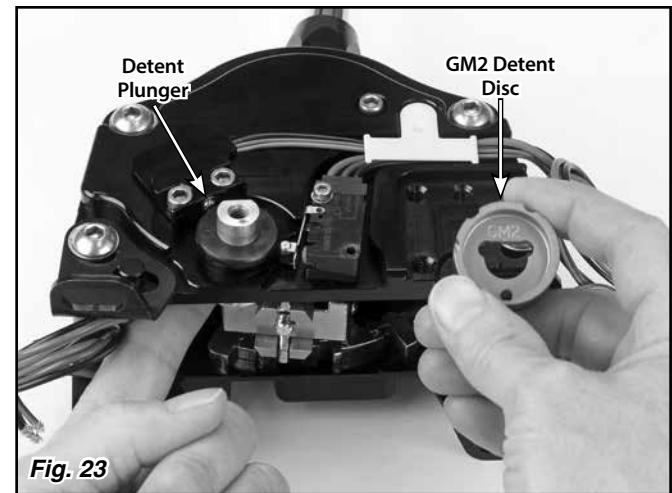
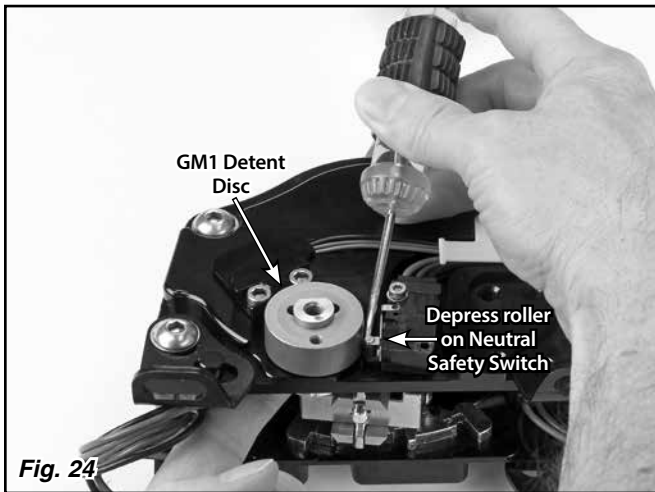

Fig. 23
Fig. 24
- Step 8:** Remove the Position 2 detent disc (labeled GM2 on the inside). **Fig. 23** Replace it with the provided Position 1 detent disc (labeled GM1 on the inside). You will have to depress the roller on the neutral safety switch to get the detent disc in place. **Fig. 24** Also, make sure the detent plunger is seated. If the detent plunger is protruding, the detent disc can get caught on it and not seat fully. **Fig. 23**